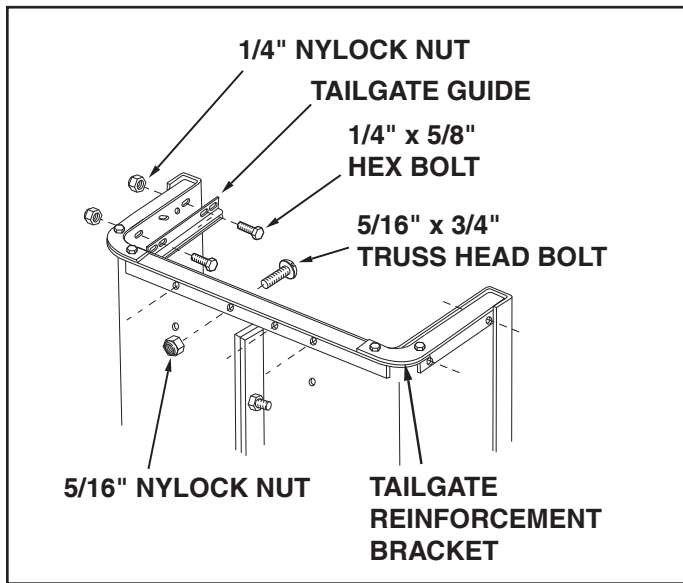

FIGURE 2
- Position the tailgate reinforcement bracket on the outside of the cart. Assemble to the bottom of the cart body using four 5/16" x 3/4" truss head bolts and 5/16" nylock nuts. **Do not tighten.** See figure 2.
- Position the tailgate guides on the inside of the cart bodies with guide channels to the front. Assemble using four 1/4" x 5/8" hex bolts and 1/4" nylock nuts. **Do not tighten.** See figure 2.